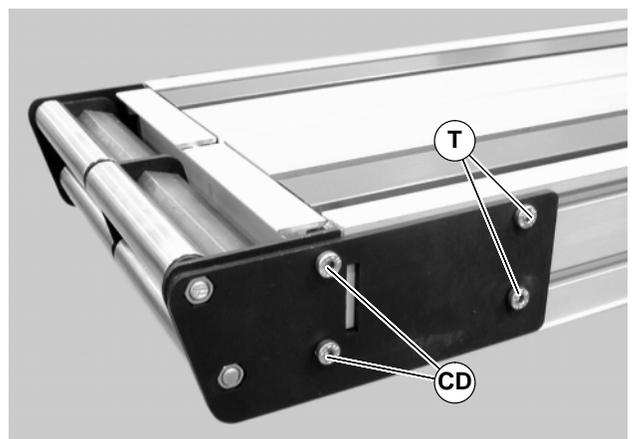
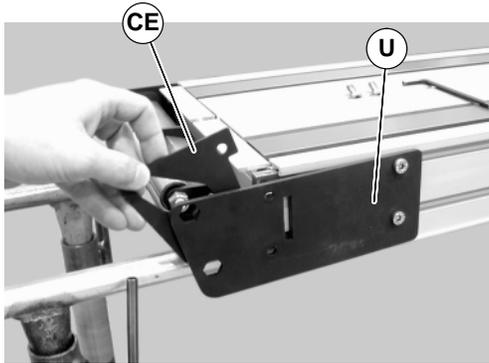
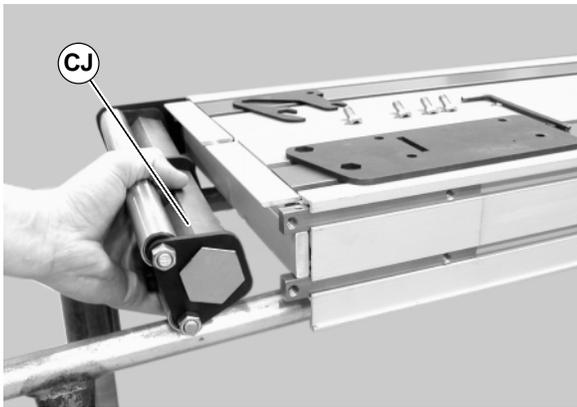

Figure 65
Figure 66
Figure 67
2. On one side of conveyor, loosen the two (2) back fastening screws (T of Figure 65), and remove the two (2) front fastening screws (CD).
3. Pull back the outer headplate (U of Figure 66) and remove the inner spacer (CE).
4. Slide the transfer tail pulley assembly (CJ of Figure 67) out of the headplate on the opposite side.
NOTE: Transfer tail assembly must be removed as on piece. Removal may require removing screws T of Figure 65 and headplate U of Figure 66 as shown in Figure 67